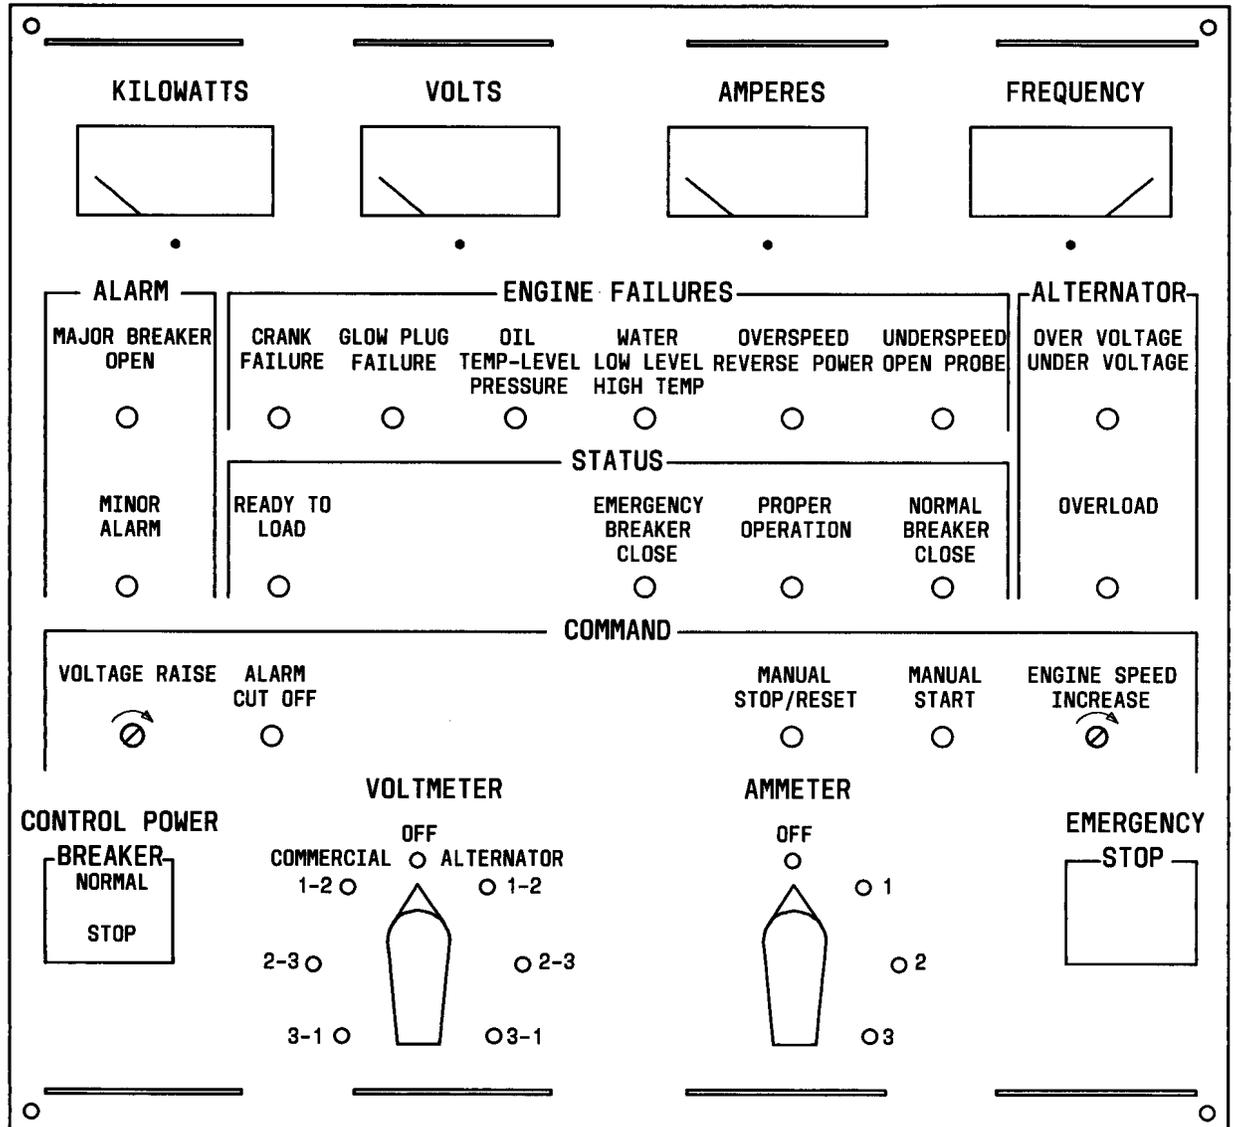

Fig. 4—Typical J86657 24- or 40-kW Control Panel
3.03 Mounted on the control panel (Fig. 4) are the following controls, instruments and indicators: